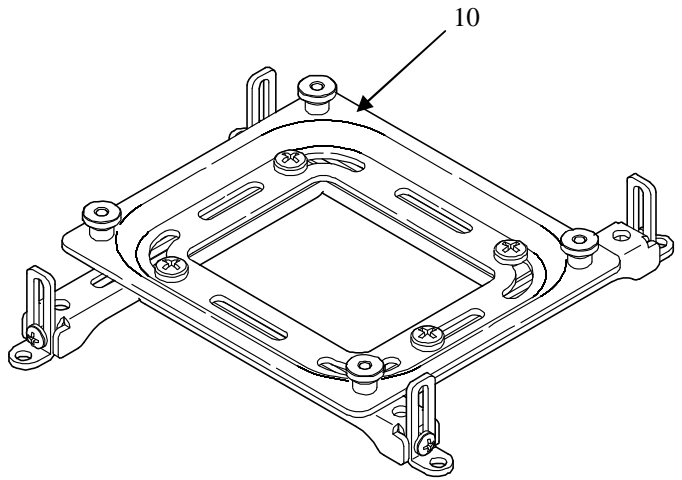

Figure 2. SLMO Assembly
- a. Place the SLBO/SLMO (10) on your projector.
- b. Adjust the legs on the SLBO/SLMO (10) as needed. Align the adjustable legs on the SLBO/SLMO with mounting holes on your projector.
5. Attach the SLBO/SLMO to RPA/RPM (see Figure 2).
- b. Adjust the legs on the SLBO/SLMO (10) as needed. Align the adjustable feet on the SLBO/SLMO with mounting holes on your projector.
6. Attach the SLBO/SLMO to RPA/RPM (see Figure 2).